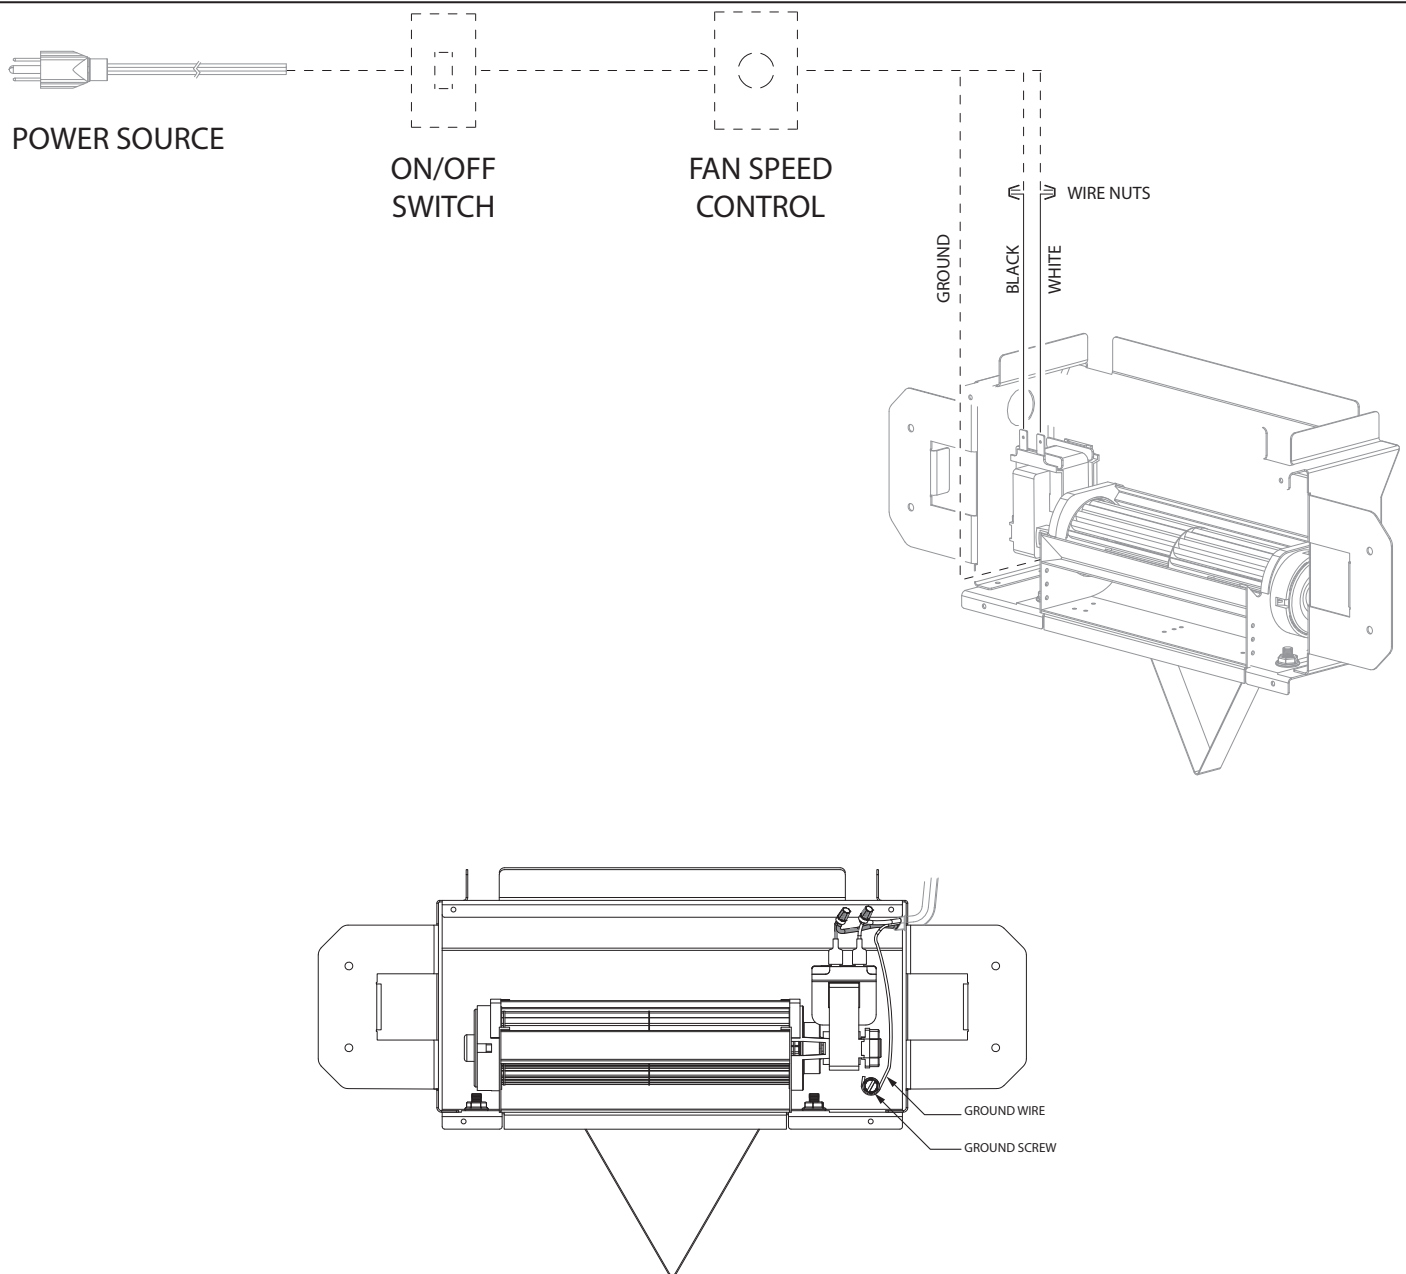

FIGURE 3.1 HTK-INT Wiring Diagram
- **FIGURE 3.1** illustrates a typical wiring installation. Hard wire the fan to the electrical system.
- It is easier to access the ground screw if you remove the (2) flange nuts securing fan to the assembly and slide the fan forward.